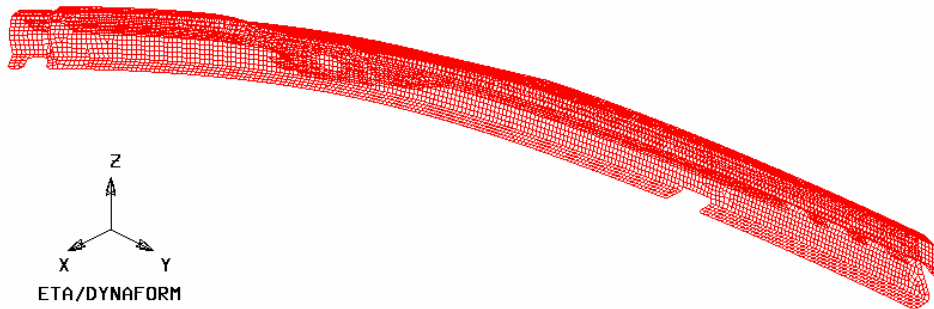

Figure 2.9: Part mesh
7. Select **Apply** button from **Surface Mesh** dialog box to accept selection. Part mesh is generated and highlighted in white. When system prompts “**Accept Mesh?**”, select **Yes** button. Compare created part mesh with Figure 2.9.